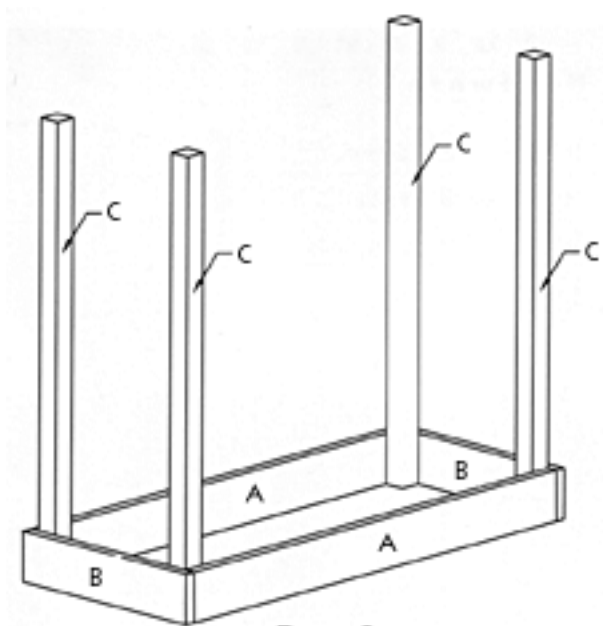

Figure 2
Apply glue to the meeting surfaces, and screw through the face of the Short Sides (B) into the ends of Long Sides (A), using one 5/8" wood screws. Repeat the procedure to form another rectangle with the remaining two Short and Long Sides (A and B). Designate one rectangle as the "Top" and the other as the "Bottom". Cut four Legs (C) from 2 x 2 pine x 32" long. Place the four Legs (C) inside the corners of the assembled rectangle "Top" as shown in figure 2. Apply glue to the meeting surfaces, and screw through the Short and Long Sides (A and B) into both sides of each Leg (C), using two 2" wood screws on each joint.